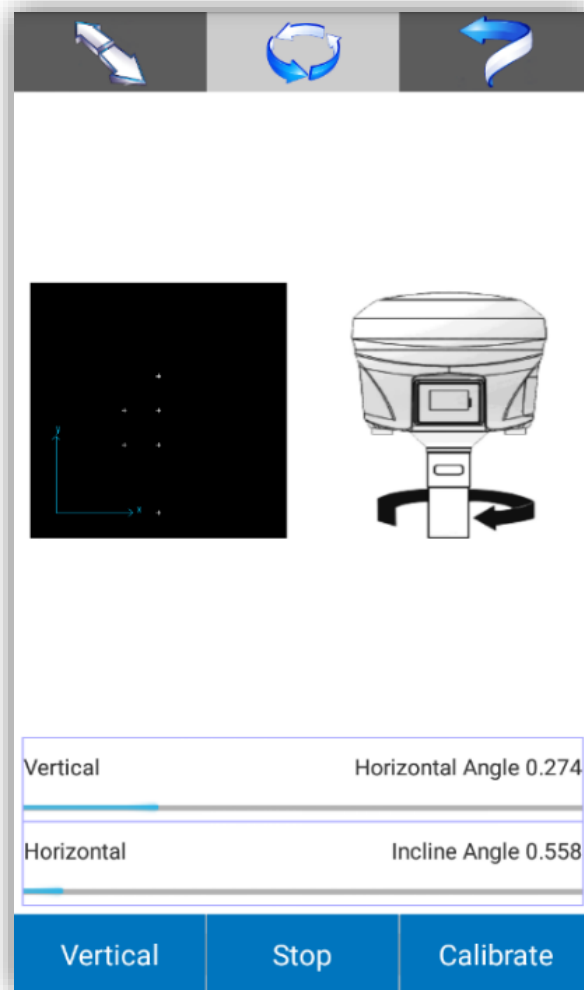
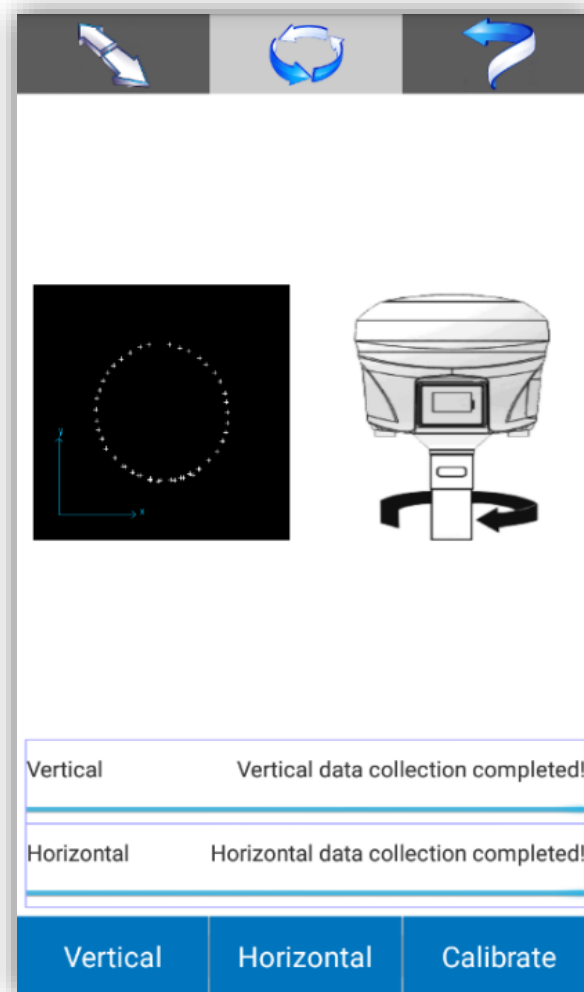

Figure 7.12
Figure 7.13
② Horizontal receiver calibration: Click "Horizontal" and make a circle with the pole with respect to the center of the same pole, also in this case the speed of the pole should not exceed $15^\circ/s$. After the telescope has made the circular rotation, the data is recorded, and the receiver will emit a BEEP. The recording of horizontal data is shown in Figure 7.12. At the end of the data recording a message will appear to complete the operation as shown in Figure 7.13.